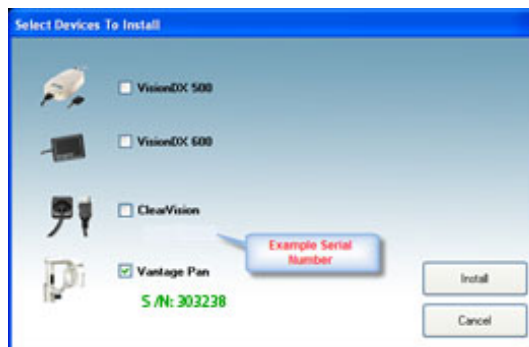

Figure 3: Selecting the device families to be installed
- The screen on Figure 3 will be displayed. Choose Vantage Pan and all other device families that have to be supported by the Imaging Software.